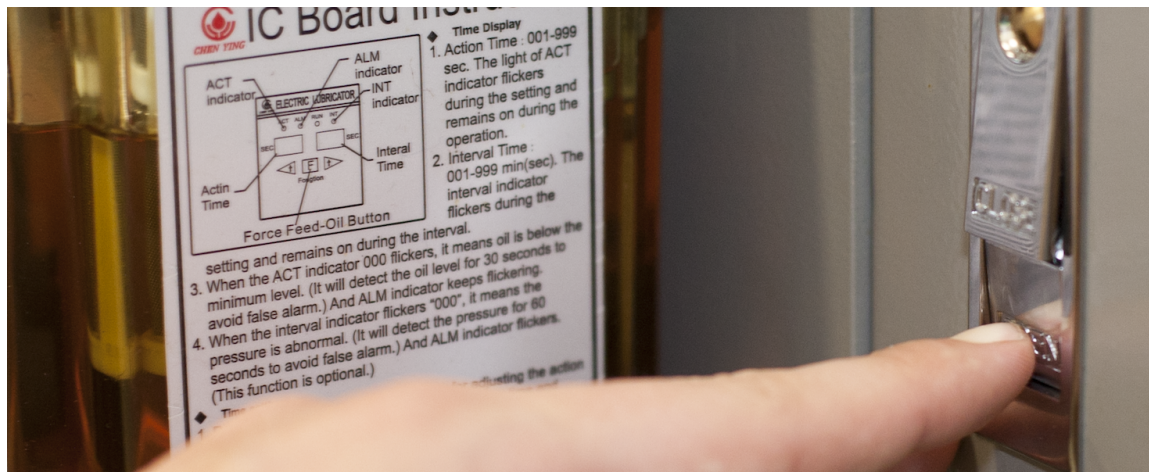

FIGURE 3.2: OPENING THE LOCKING MECHANISM ON THE COMPUTER CABINET.
- Walk to the right side of the machine, move the computer arm as far forward on the machine as possible, and bend down towards the cabinet. There is a silver locking mechanism on the large panel of the machine. Use your finger to push the lower square labelled **Open**, Figure 3.2. The locking mechanism will pop out, and can be used as a handle to gently swing open the cabinet.